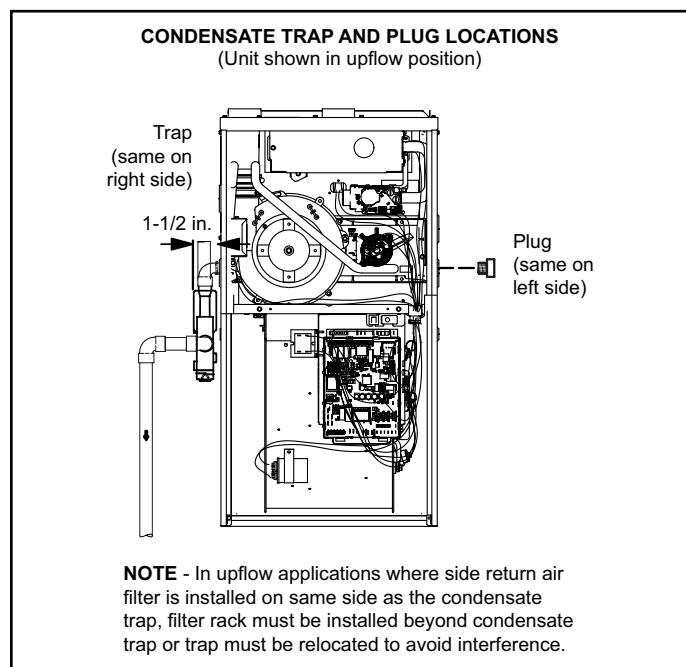
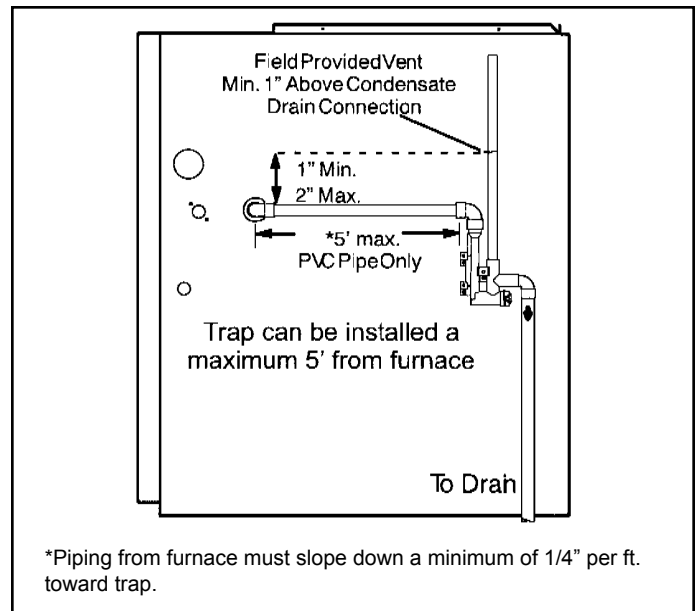
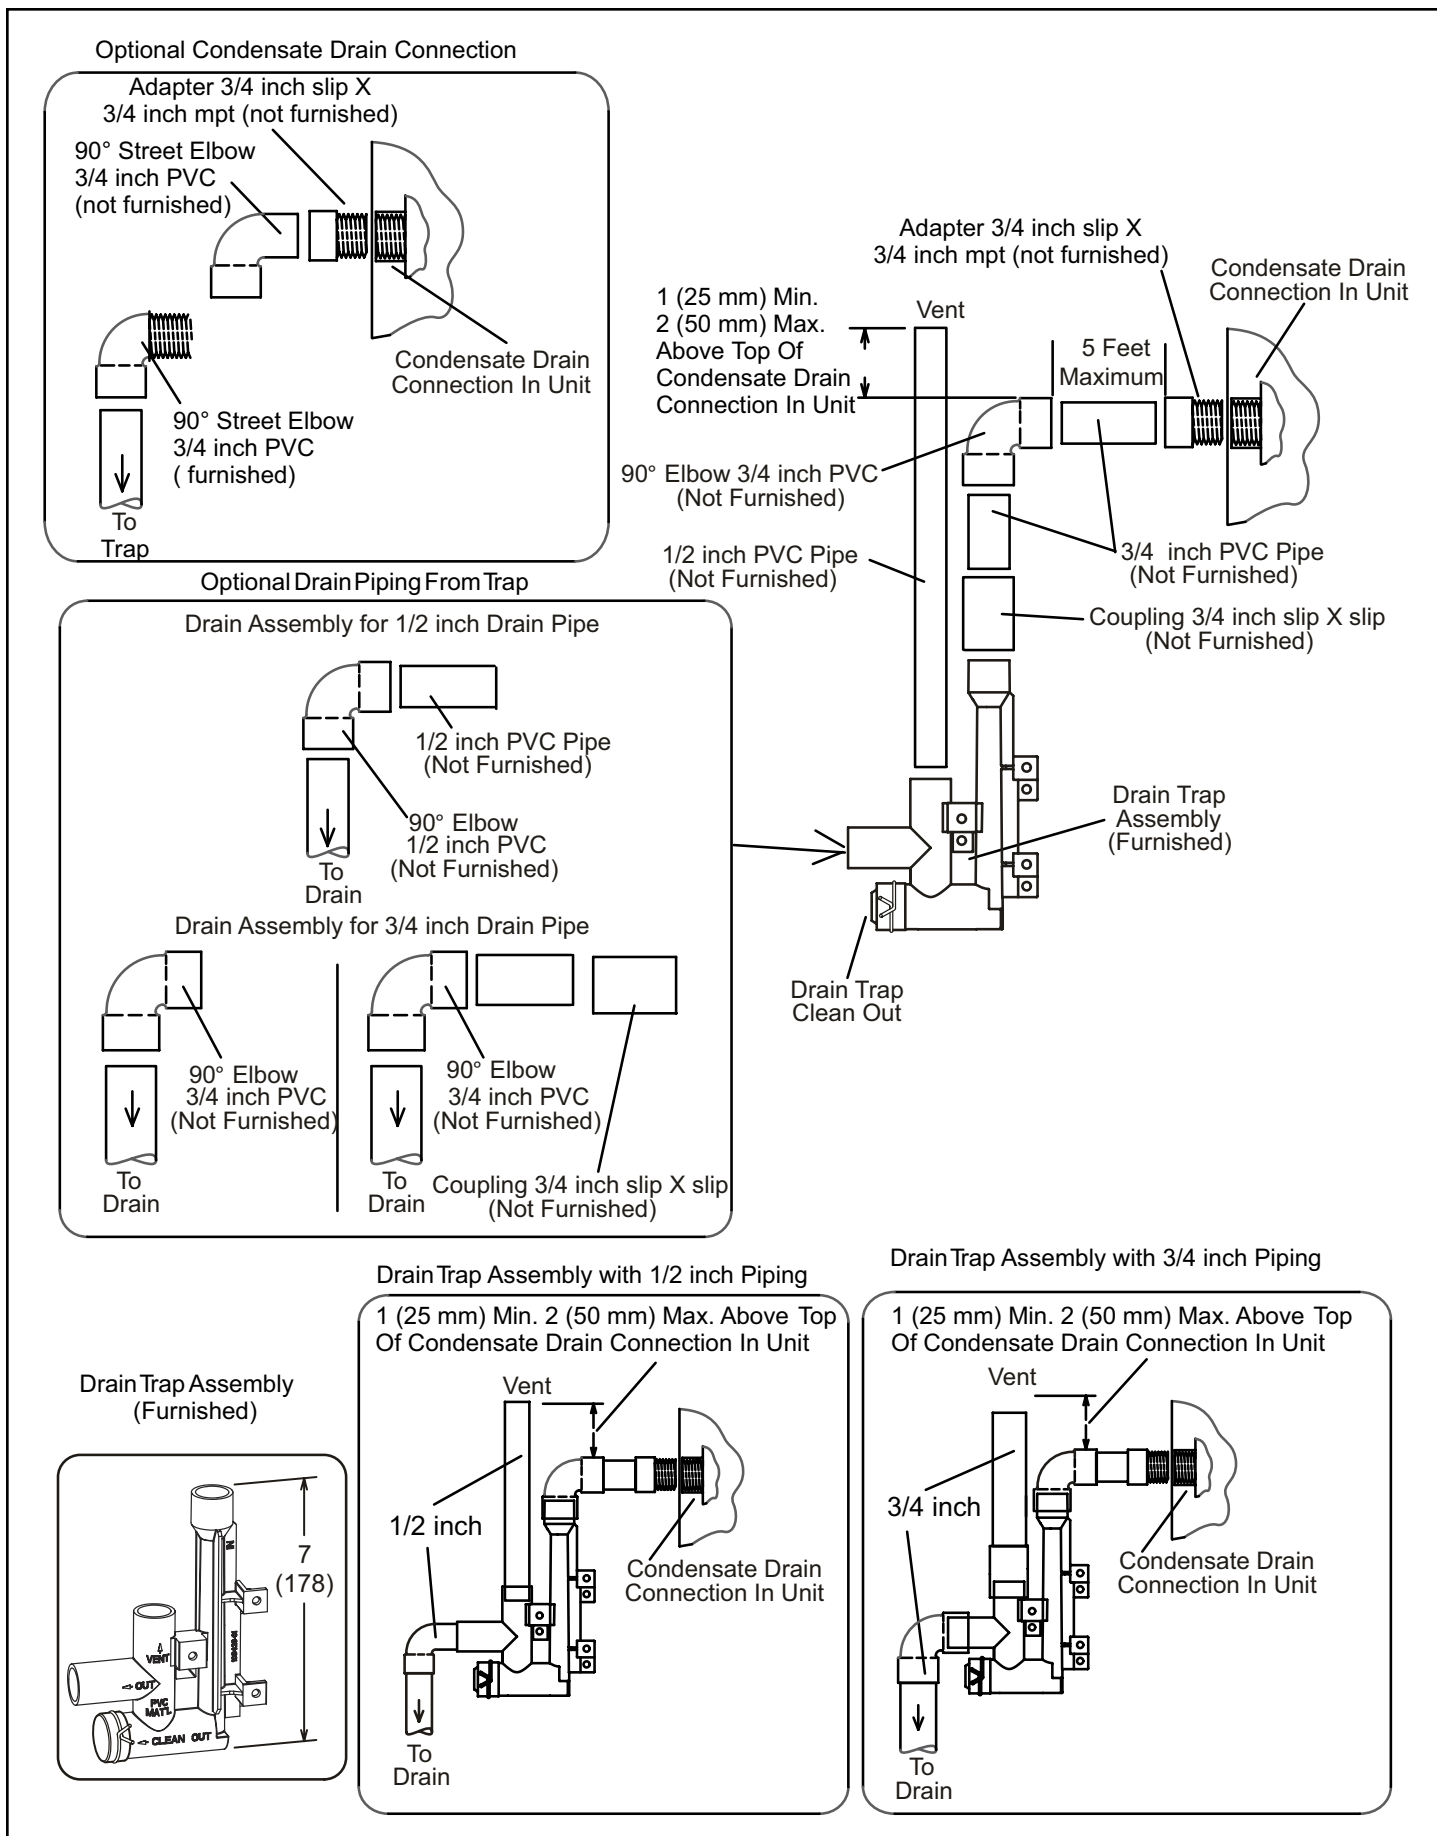

Figure 52. Condensate Trap and Plug Locations (Unit shown in upflow position)
Figure 53. Condensate Trap Locations
Figure 59. Trap / Drain Assembly Using 1/2" PVC or 3/4" PVC
This unit is designed for either right or left side exit of condensate piping in upflow applications. In horizontal applications, the condensate trap must extend below the unit. An 8" service clearance is required for the condensate trap. Refer to Figure 52 and Figure 53 for condensate trap locations. Figure 59 shows trap assembly using 1/2" PVC or 3/4" PVC.
2. Use a large flat head screw driver or a 1/2" drive socket extension and remove plug (Figure 52) from the cold end header box at the appropriate location on the side of the unit. Install provided 3/4 NPT street elbow fitting into cold end header box. Use Teflon tape or appropriate pipe dope.
3. Install the cap over the clean out opening at the base of the trap. Secure with clamp. See Figure 59.
4. Install drain trap using appropriate PVC fittings, glue all joints. Glue the provided drain trap as shown in Figure 59. Route the condensate line to an open drain. Condensate line must maintain a 1/4" downward slope from the furnace to the drain.
Upflow furnace (Figure 53) - In upflow furnace applications the field provided vent must be a minimum 1" to a maximum 2" length above the condensate drain outlet connection. Any length above 2" may result in a flooded heat exchanger if the combined primary drain line were to become restricted.